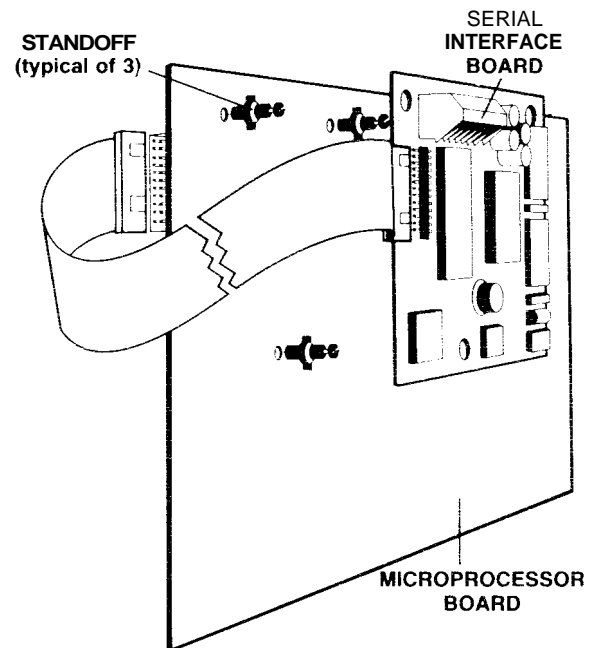

FIGURE 8
The serial interface board must be mounted on the microprocessor circuit board on the back of the keyboard panel. Refer to *Figure 8* and install the board as follows:
2. Install the three standoffs supplied with the serial interface board into the holes provided in the microprocessor board (see *Figure 8*). Press the standoffs firmly into place until the collar is against the board surface. Then press down on the screwhead on the top of the standoffs. This will flare the bottom of the standoff to lock it in place.
4. Connect the other end of the ribbon cable to the serial interface board connector as shown in *Figure 8*. Note the leads exit the cable connector on the side away from the board.